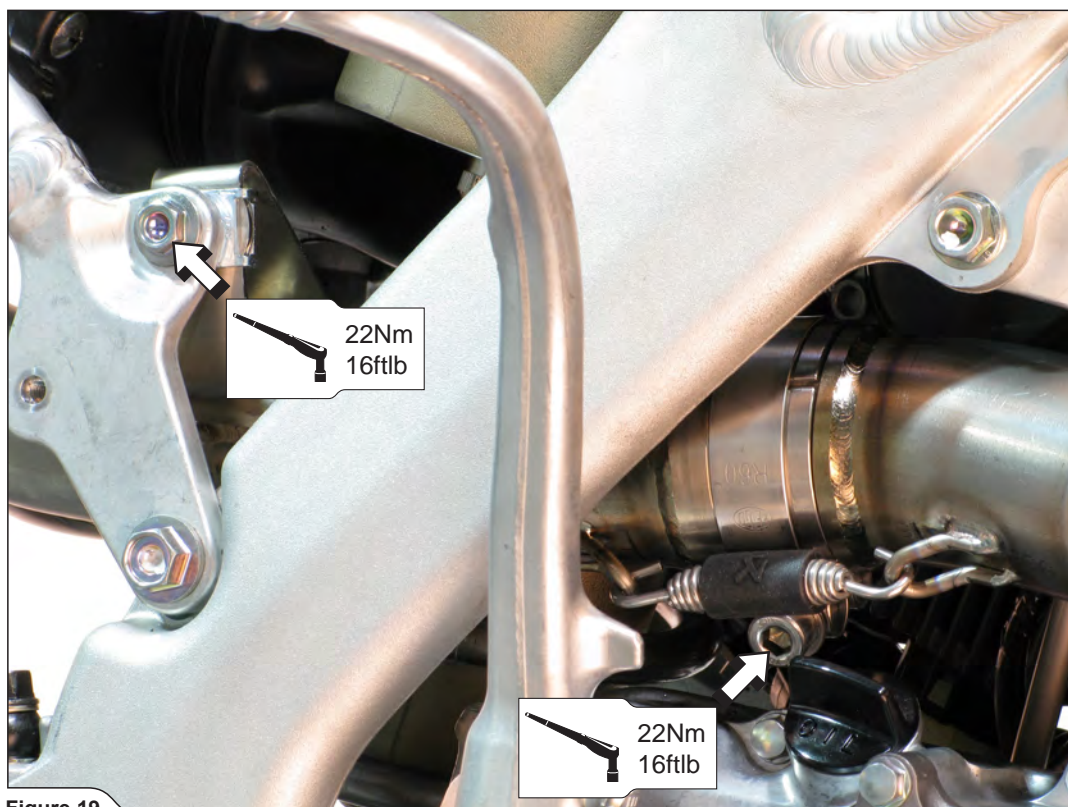

Figure 19
10. Tighten the link pipe's bracket bolt and clamp to the specified torque (**Figure 19**).